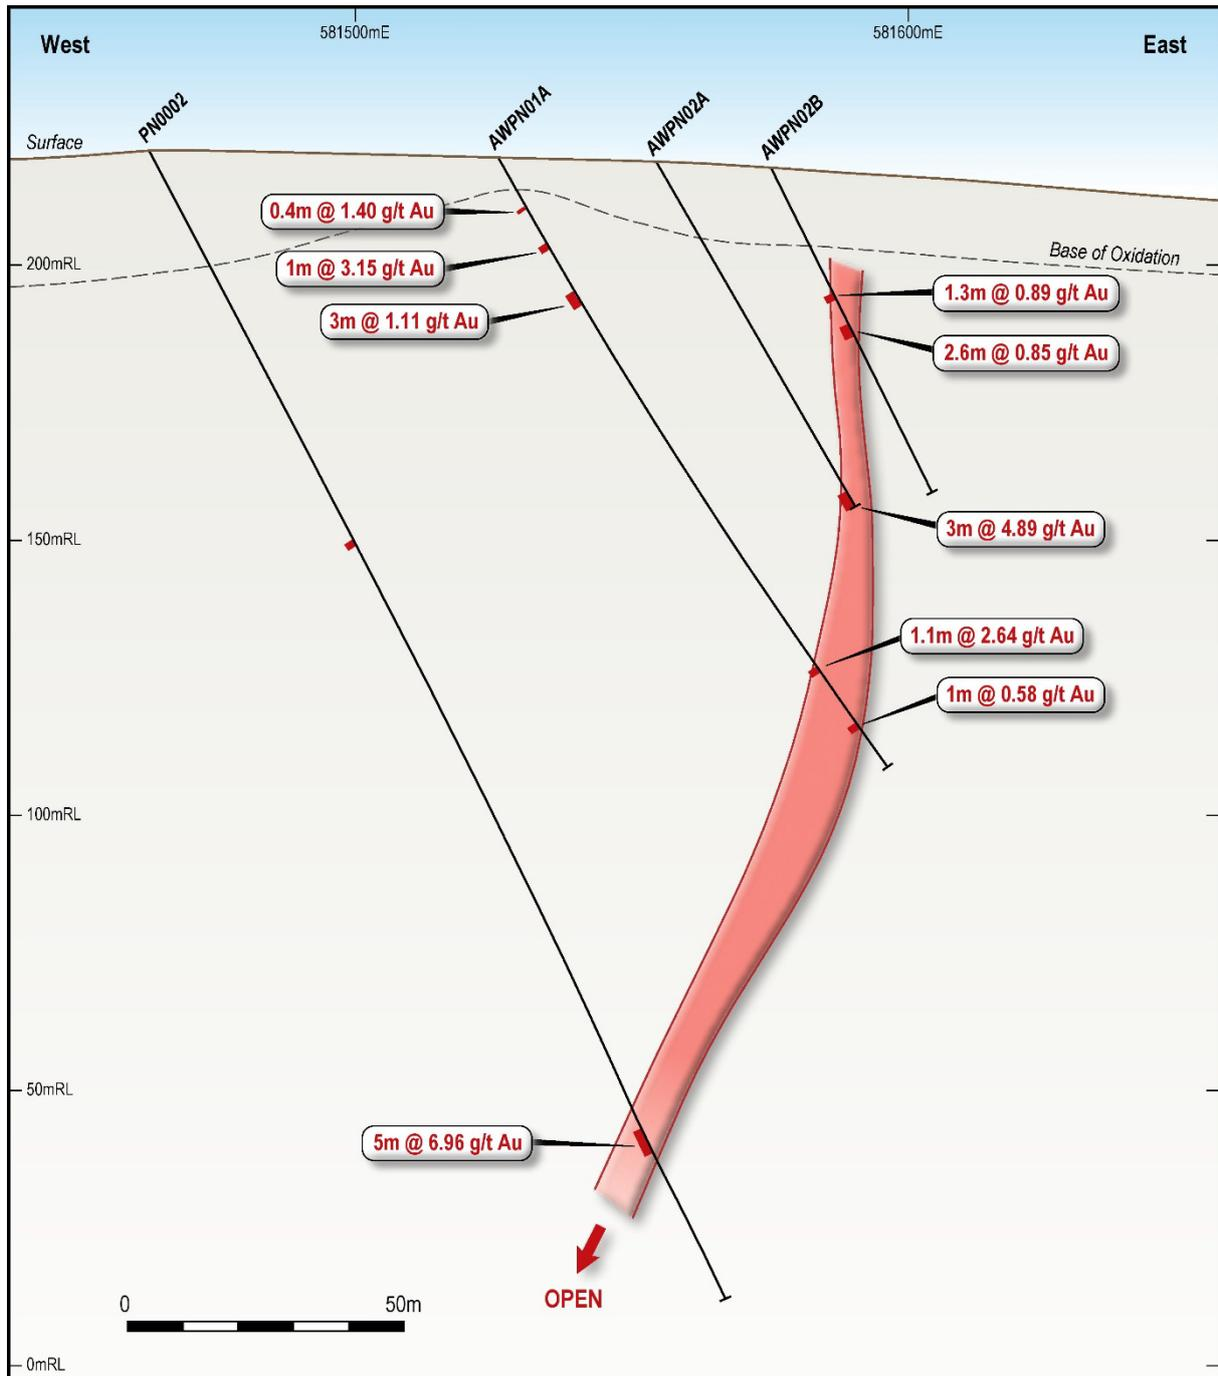

Figure 5: Pioneer Prospect, Drill Section 6,731,480 North
Limited historic drilling in the area has returned significant Au in diamond and RC drilling, including 3m at 4.89 (AWNPN02A) and 2m at 14.72 g/t Au. MHC completed four (4) RC holes (PN0001-04) for 732 metres to test the system, particularly at depth (PN0002 – *Figure 5*) as well as a parallel lode that had not been previously drill tested (PN0004). Drilling intercepted shale, with each hole hosting multiple zones of significant quartz-pyrite veining. Results have now been returned for PN001-03, returning significant Au, including: